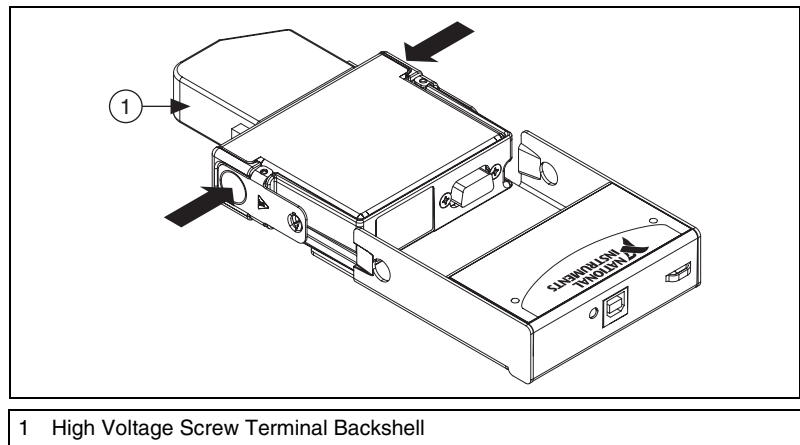

Figure 4. Module Installation
The NI 9215 module and NI USB-9161/9162 carrier are packaged separately. Refer to Figures 4 and 5 while completing the following assembly steps:
3. Align the I/O module with the carrier, as shown in Figure 4.